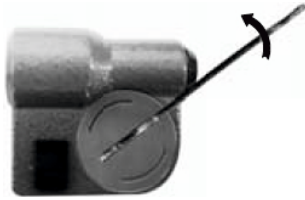

fig. 1
- » Turn the battery cover 45° counterclockwise using the spanner (fig. 1), then remove it.